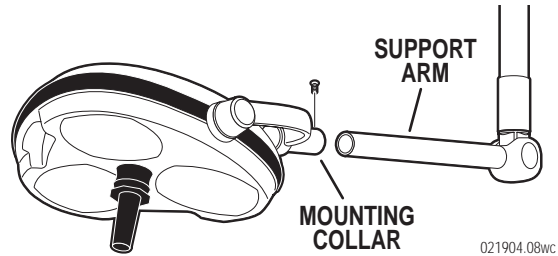

Figure 6. Lighthead Installation
b. Remove the four (4) screws from the lighthead mounting stub.
c. Install the lighthead mounting collar onto the support arm and secure with the screws previously removed. See figure 6.